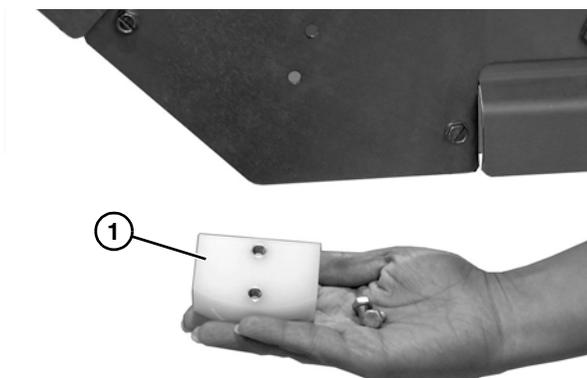

**Figure 55**
3. Remove the cap screw (**Figure 55, item 1**) and the hold down roller (**Figure 55, item 2**). Repeat on opposite side of the conveyor.